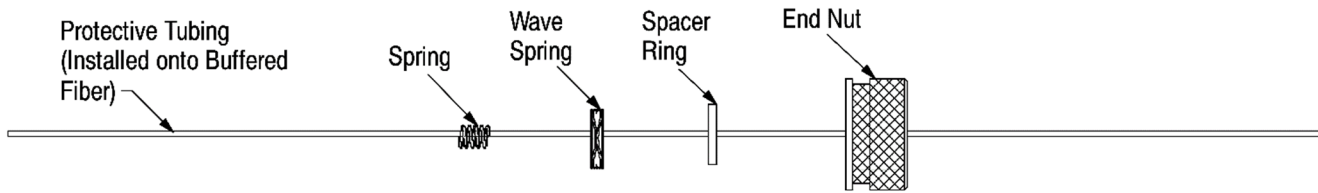

Figure 2
- f. Slide the components shown in Figure 2 over the buffered fiber and onto the protective tubing. Make sure to orient each component as shown.
- b. Slide the components shown in Figure 2 onto the protective tubing, allowing 23±1 mm at the end of the tubing for stripping. Make sure to orient each component as shown.